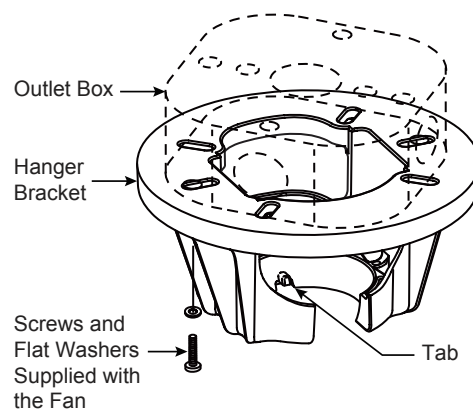

Figure 3
3. Loosen the two set screws and locking nuts in the downrod support of the motor assembly. Route the brown, blue, red, gray and yellow wires through the downrod. (Figure 3)
1. Securely attach the hanger bracket to the outlet box using the #8-32 outlet box screws and washers supplied with the fan. (Figure 3)
NOTE: Outlet box screws pass through slotted holes of the hanger bracket. (Figure 3)
3. Carefully lift the fan and seat the downrod/hanger ball assembly onto the hanger bracket that was just attached to the outlet box. (Figure 4) Be sure the groove in the ball is lined up with tab on the hanger bracket. (Figure 3)
2. Slide the receiver into the hanger bracket before wiring as shown in figure 3.